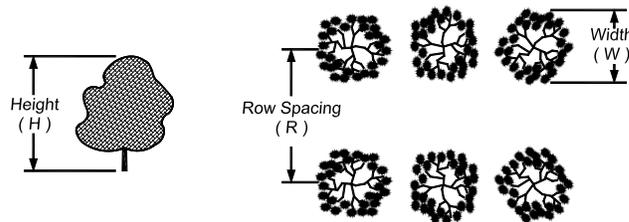

Figure 1. Measurement data (in meters) required for TRV calculation (h=tree height, r=distance between rows, w=canopy width).
- (1) Physical measurements (in meters) of trees in each uniform orchard block (Fig.1).